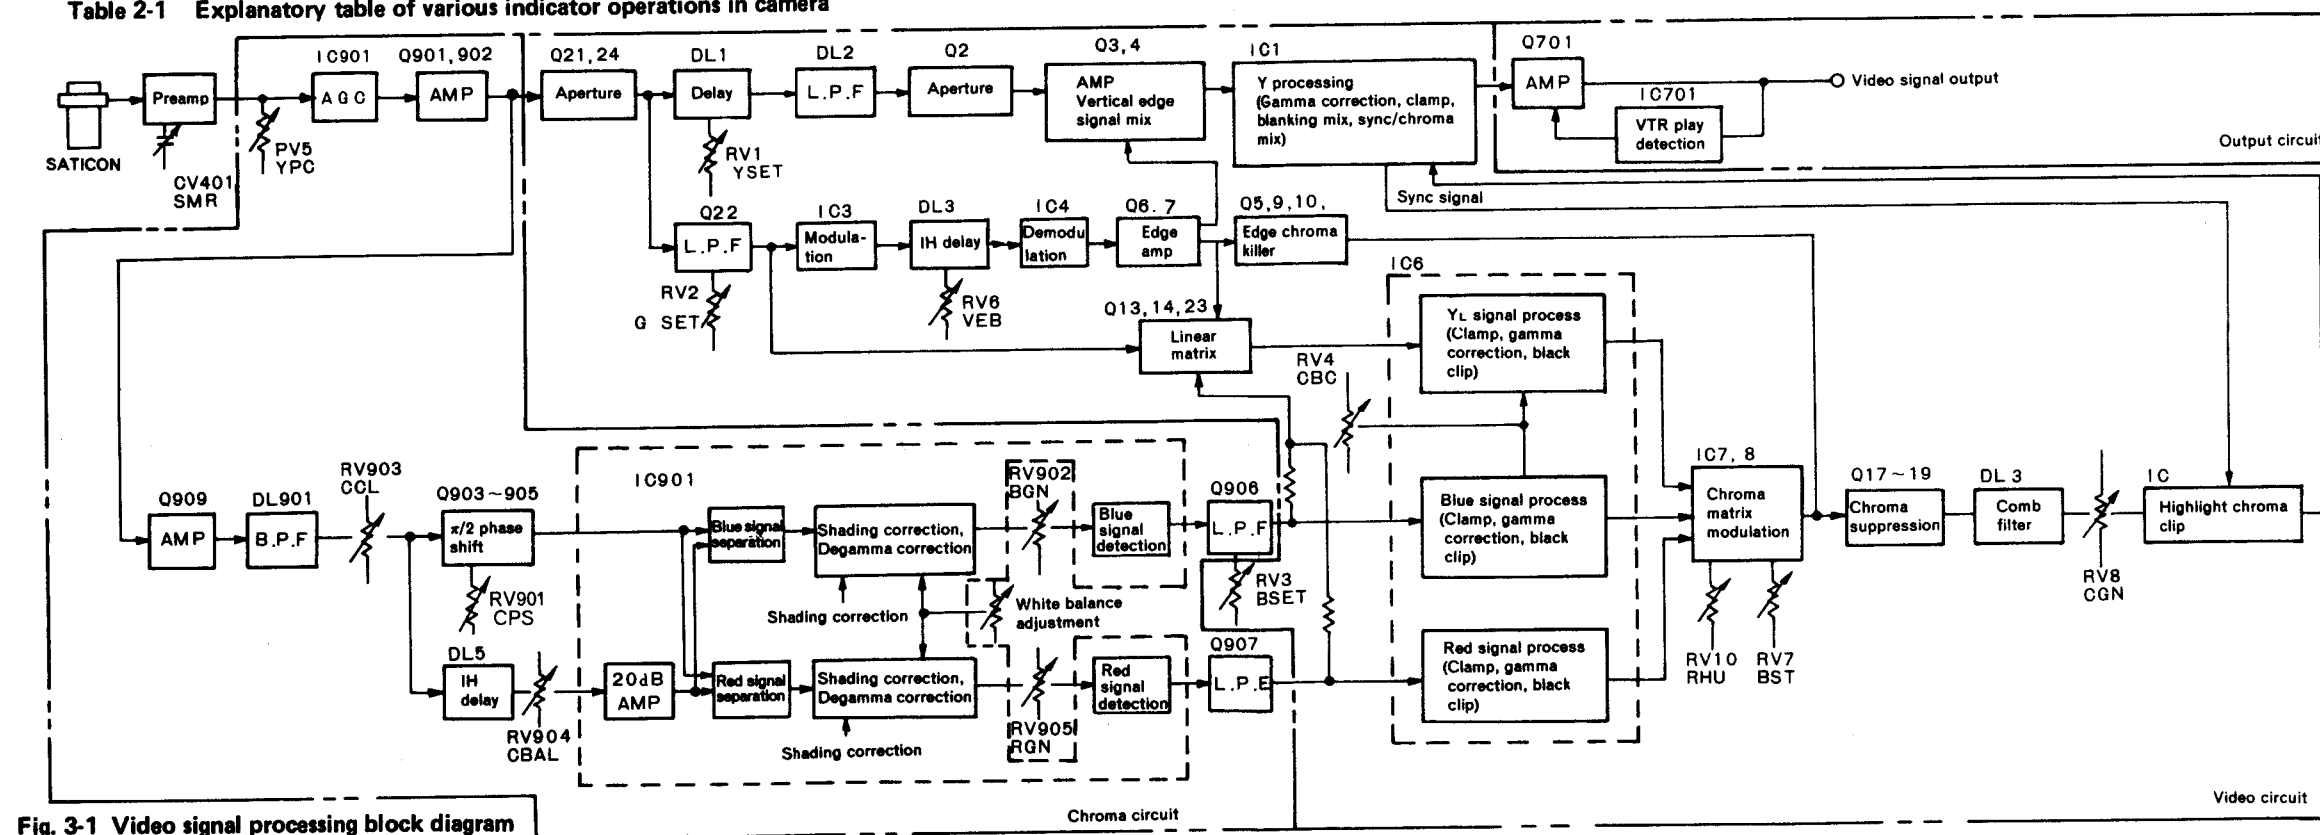

Fig. 3-1 Video signal processing block diagram
The video signal processing system as far as the luminance signal (Y) and 2 color-difference signals (R-Y), (B-Y) are produced is described in the following. In Fig. 3-1, the signal obtained from the SATICON U9381AM target via amplification of the signal is fed to the preamplifier first. This level is 0.15 μ A (Y signal) and 0.08 A (chroma signal) in the standard pickup condition.